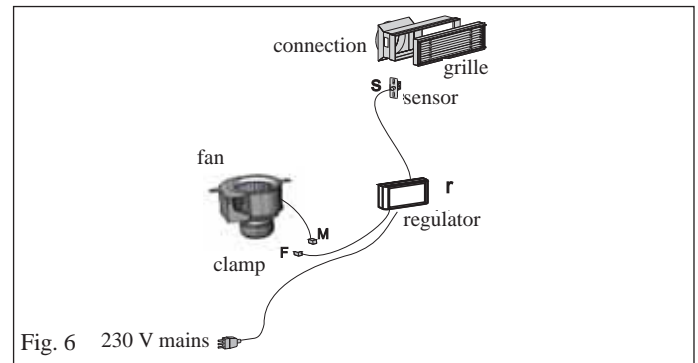
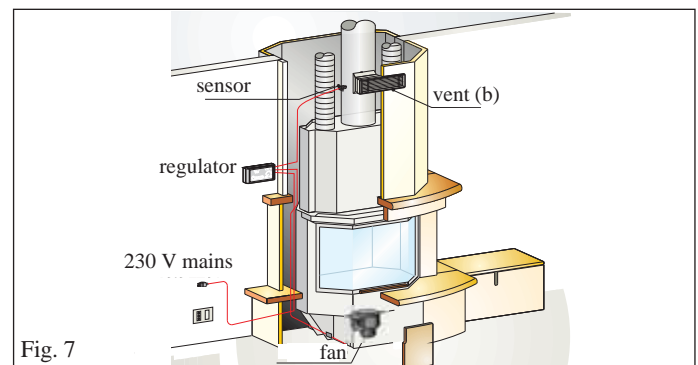

Fig. 6
Fig. 7
- Connect the two connectors M and F (fig. 6).
- Extend the electric wire from the regulator (r - fig. 6) to an electric socket.
- The wire with the sensor (s - fig. 6) must be extended to one of the hot air exit vents (b - fig. 7) normally positioned on the mantel.